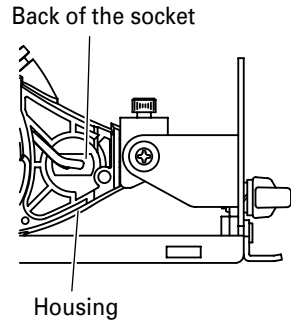

Fig. 20
- (2) Push the back of the socket, and remove the socket and the light bulb together from the housing (Fig. 20).